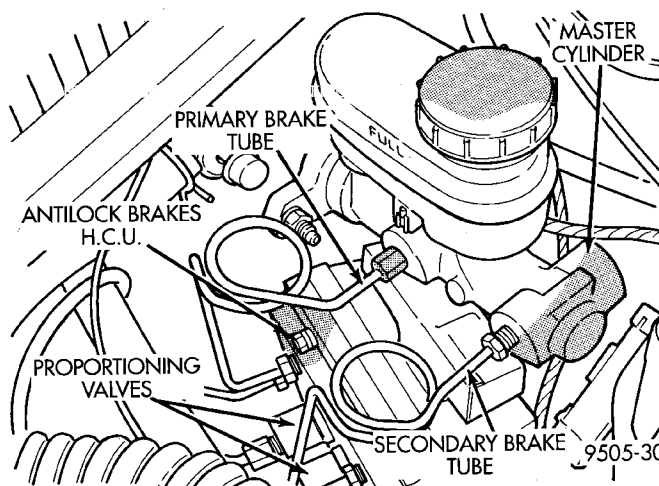

Fig. 13 Primary And Secondary Brake Tubes With ABS Brakes
(3) Disconnect primary and secondary brake tubes from master cylinder housing (Fig. 13). Install plugs at brake tube outlets of master cylinder assembly.
(4) Clean area where master cylinder attaches to booster using a suitable brake cleaner.
(16) Connect brake tubes to master cylinder primary and secondary ports (Fig. 13). Torque all tube nuts to 17 N·m (145 in. lbs.) torque.